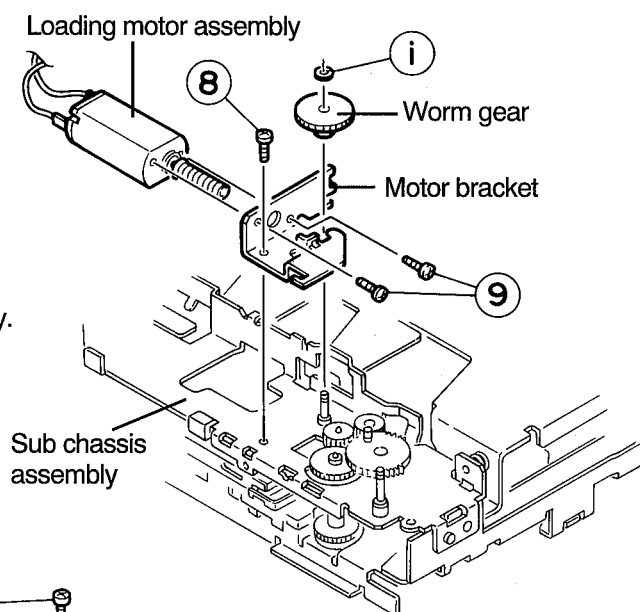

Fig. 11
■ Removing the Loading Motor Assembly (See Fig. 11)
3. Remove the mylar washer ① fixing the worm gear.